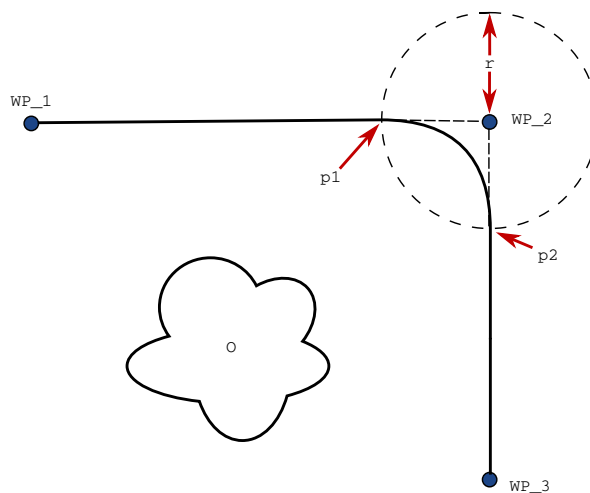

Figure 15.3: Blend over WP\_2 with radius  $r$ , initial blend position at  $p_1$  and final blend position at  $p_2$ . O is an obstacle.
**Blend parameters** Apart from the waypoints, multiple parameters will influence the blend trajectory (see figure 15.3):